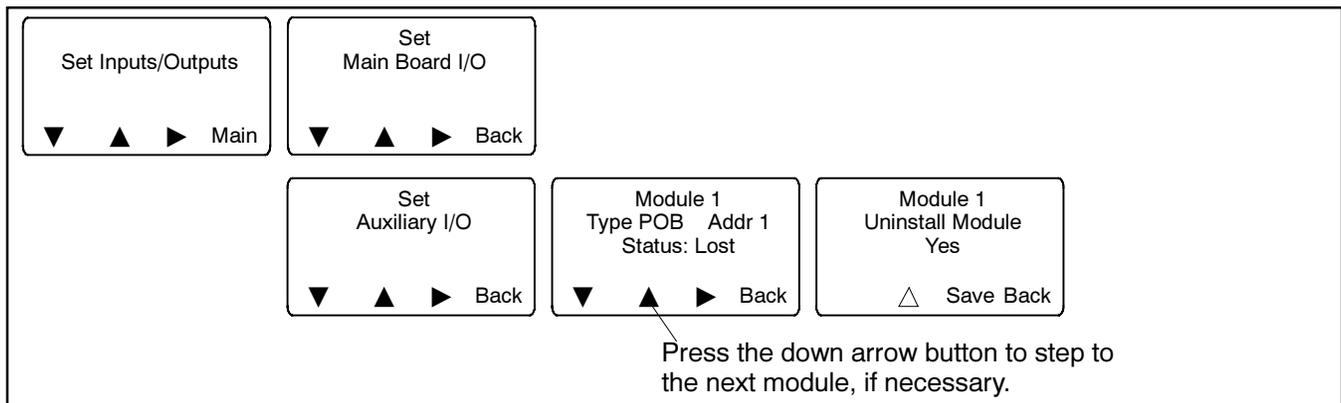

Figure 33 Uninstall Module
3. Navigate to the Set Input/Outputs>Set Aux I/O screen to check that the controller has recognized the connected modules. See Figure 33.
5. Press the down arrow to step to the Set Inputs/Outputs screen. See Figure 33.
6. Navigate to the Set Auxiliary I/O screen. See Figure 33. Press the right arrow button to see the status of module 1. Press the down arrow to step to the next module, if necessary, until the screen shows Status: Lost.
10. Navigate to the Set Auxiliary I/O screen to check the status and settings for the new module. See Figure 33. Press the right arrow button to see the status of module 1. Press the down arrow to step to the next module, if necessary,